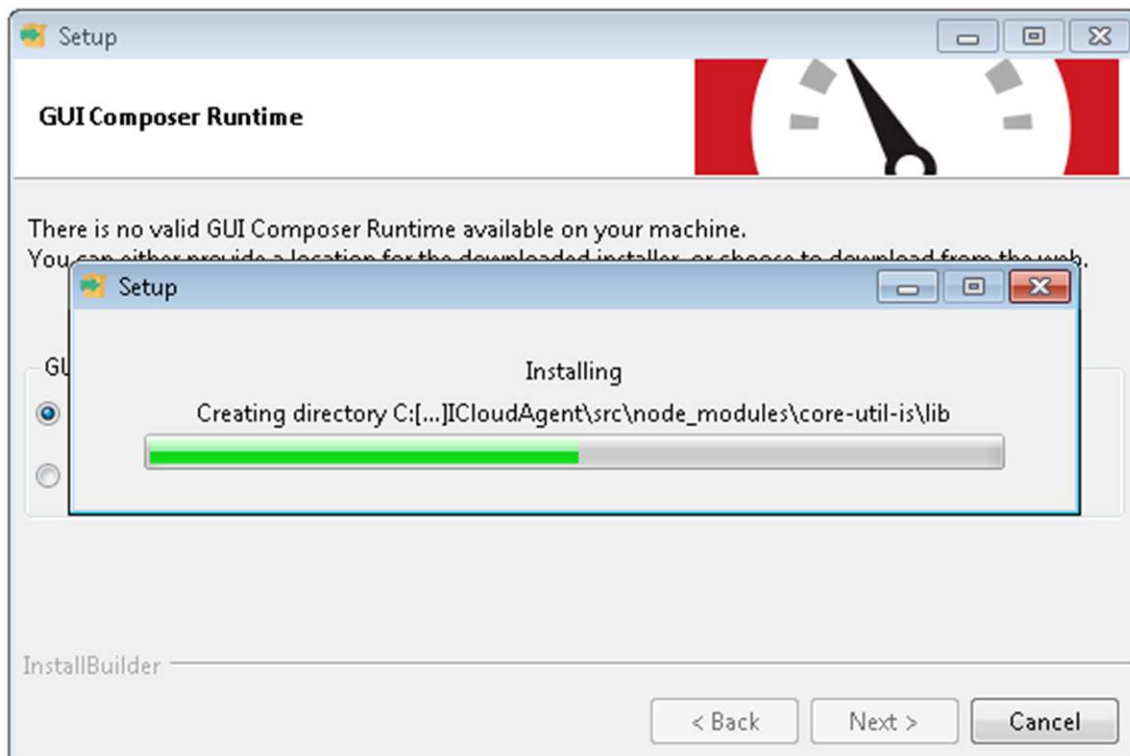

Figure 13. Self-Extraction of GUI Composer Runtime
Step 8. The installer extracts the GUI Composer component and continues with the installation as shown in Figure 13.